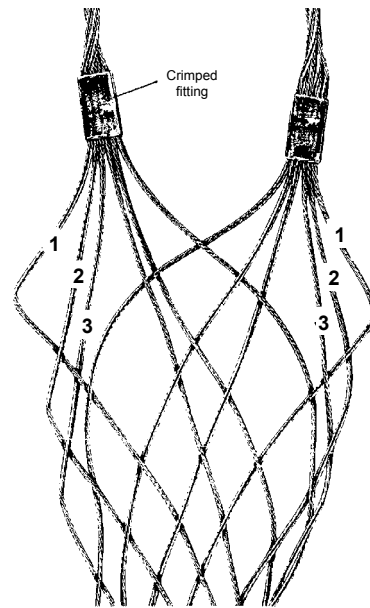
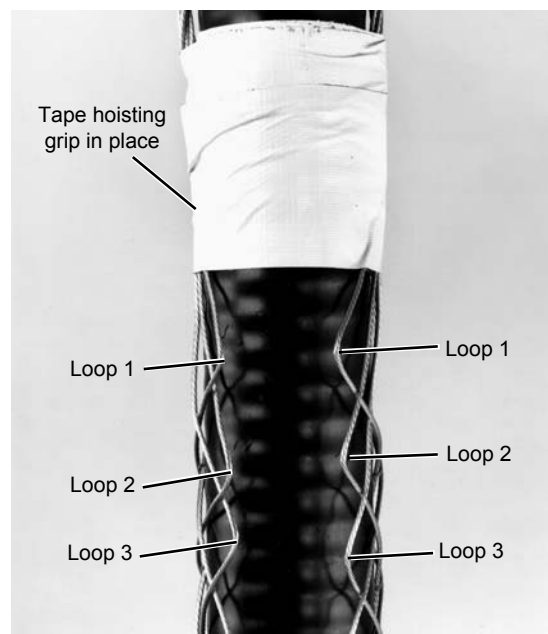

Figure 2A
Figure 2B
2. Identify the first three loop pairs to be laced at the crimped fittings as shown in **Figure 2A**. Make sure the loops are not tangled. It is important that the loop pairs are correctly matched to ensure maximum gripping strength. Then tape both crimped fittings to the cable as shown in **Figure 2B**. This will align the loop pairs of the hoisting grip and aid in lacing.